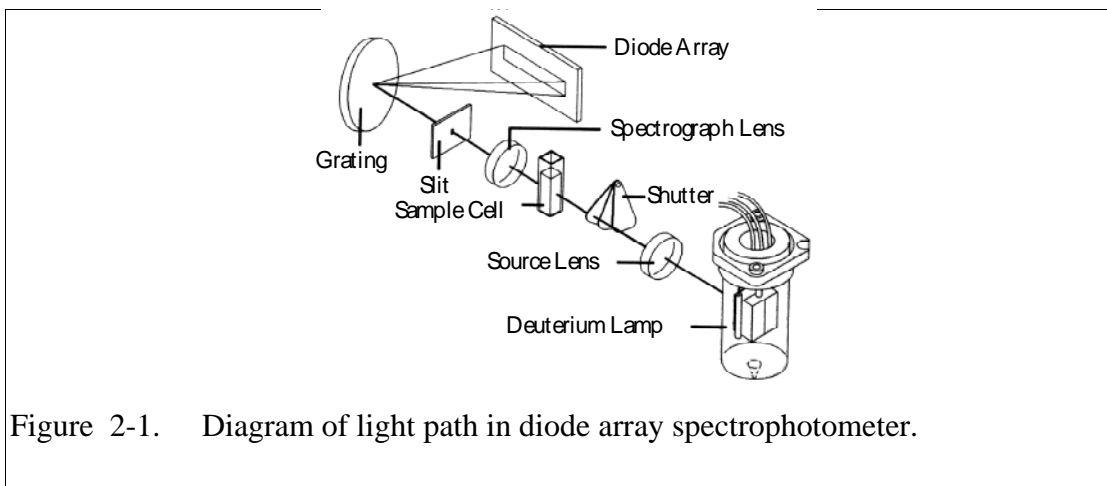

Figure 2-1. Diagram of light path in diode array spectrophotometer.
One instrument you may use to measure absorbance is a Hewlett Packard (HP) model 8452A diode array spectrophotometer. The diode array spectrophotometer uses a broad-spectrum source of incident light from a deuterium lamp. The light passes through the sample, 1 cm path length, and is split by a grating into a spectrum of light that is measured by an array of diodes. Each diode measures a bandwidth of 2 nm with 316 diodes covering the range from 190 nm to 820 nm. The wavelengths of light and their colors are given in Table 2-1. The light path for the diode array spectrophotometer is shown in Figure 2-1.